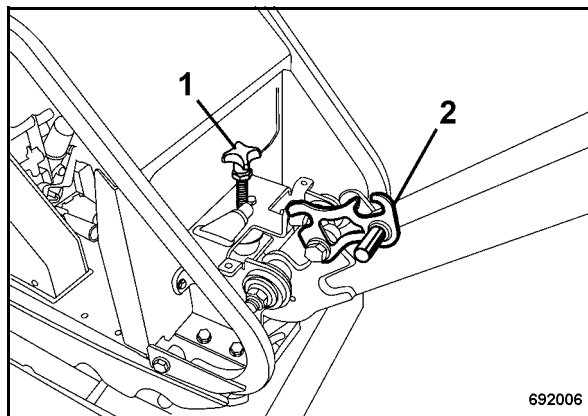

Fig. 15
- Pull the locking pawl lever (2) (Fig. 15) and lower the steering rod, so that it can swing freely.
- Adjust the steering rod with the height adjustment (1) to the height of your body.